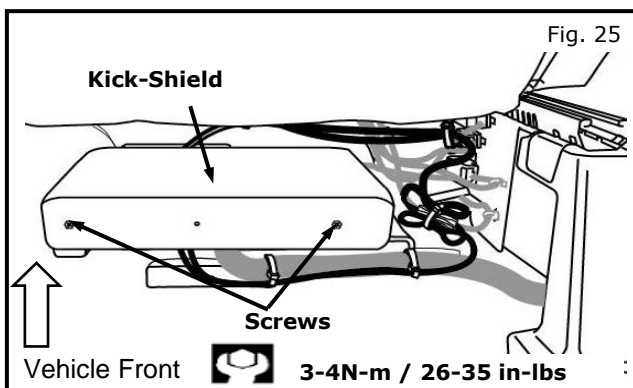

Fig. 25
10.21) Reinstall kick-shield using a Phillips screwdriver and screws removed in Step 10.1. Figure 25
- 10.21) Reinstall kick-shield using a Phillips screwdriver and screws removed in step 9. Figure 25
- a) 1/4" Phillips Tip Socket for Phillips Screws (3-4N-m / 26-35 in-lbs). Figure 25